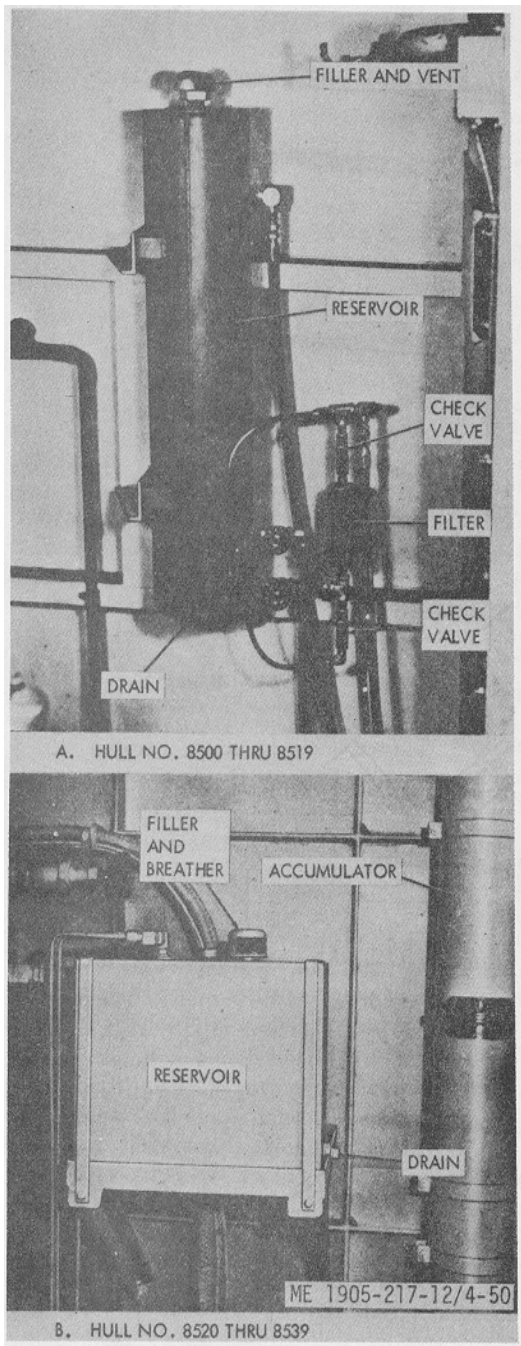

Figure 4-50. Hydraulic starting system reservoirs.
a. *General.* On hull numbers 8500 thru 8519 the filter is mounted near the reservoir on the starboard side of the engine room. See figure 4-50. The same filter is used on hull numbers 8520 thru 8539 but it is mounted below the central deck plate between the two propulsion unit. The deck plate must be removed to service this filter. On hull numbers 8540 thru 8560 and 8580 thru 8618, a different type filter is mounted on the starboard side of the reservoir. See figure 2-18.